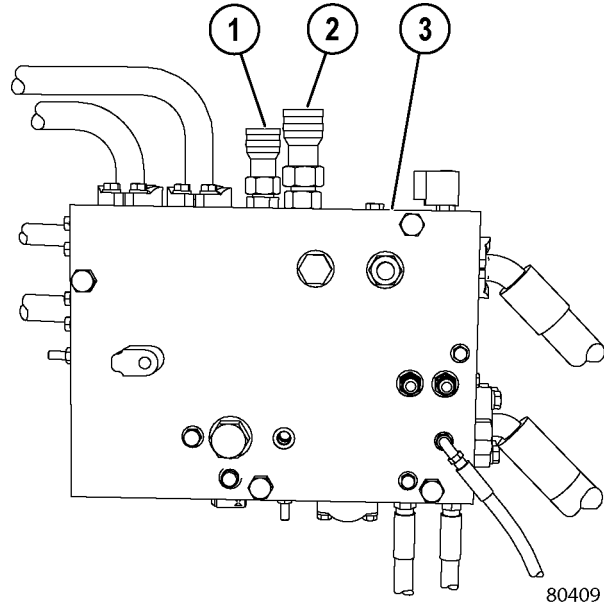

FIGURE 30-5. BLEEDDOWN MANIFOLD
Quick disconnect fittings (1 and 2, Figure 30-5) can be installed to allow operation of the steering and brake circuits for temporary truck operation if the steering/brake pump is not operational. Once these fittings are installed, two hoses (supply and return) must be connected to a hydraulic source (such as an operational truck or an auxiliary power unit) to use this feature.
2. Connect the hydraulic supply hose to the supply disconnect coupling (1, Figure 30-5).